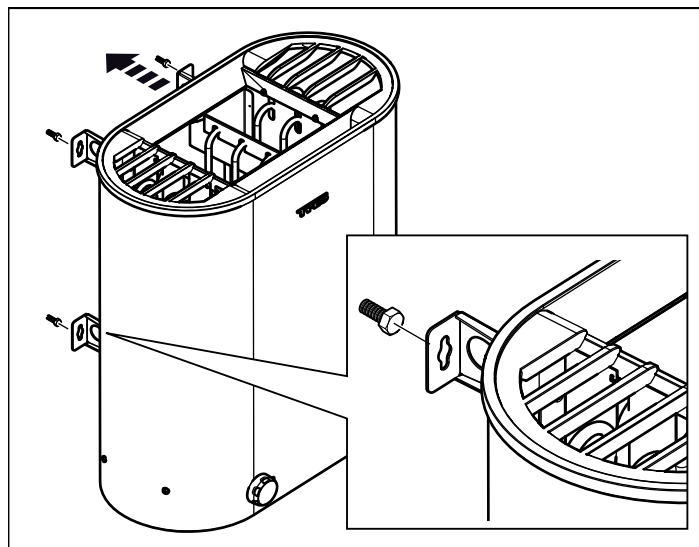

Figure 9: Hang the heater up.
- 7. Hang the heater on the screws se Figure 9, Page 7.